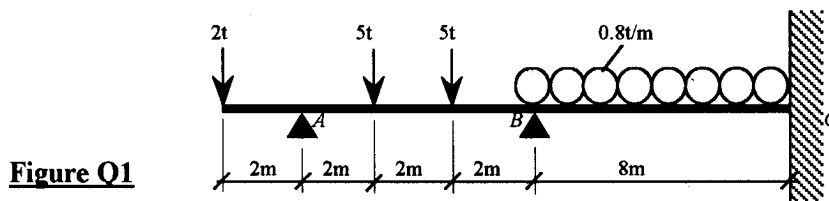

Figure Q1
- Q1.** Draw the Bending Moment diagram and Shear Force diagram for the beam shown in Figure Q1 below. Support *B* settles by 1.0 cm on the loading. Moment of inertia of the beam is 10000 cm^4 throughout and $E=2000t/\text{cm}^2$. [20 marks]